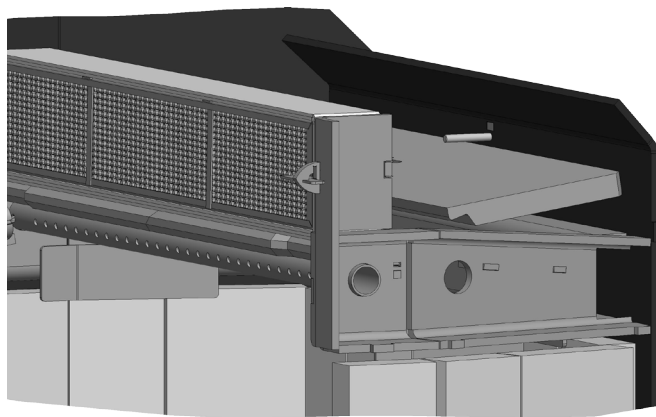

Figure 3.10. Lift the rear baffle and rest it on the back of the stove.
1. Open the door and lift the rear baffle up and slide back to rest it on top of the rear manifold member. See fig 3.10